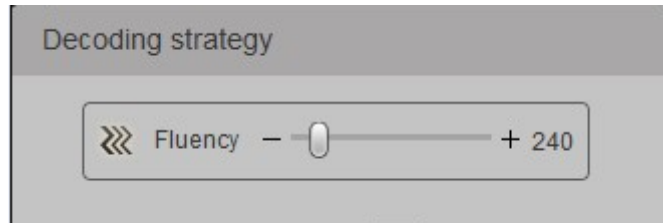

Figure 4-25
Step 1 Select network signal window and click . The system displays “Decoding Strategy” interface, as shown in Figure 4-25.